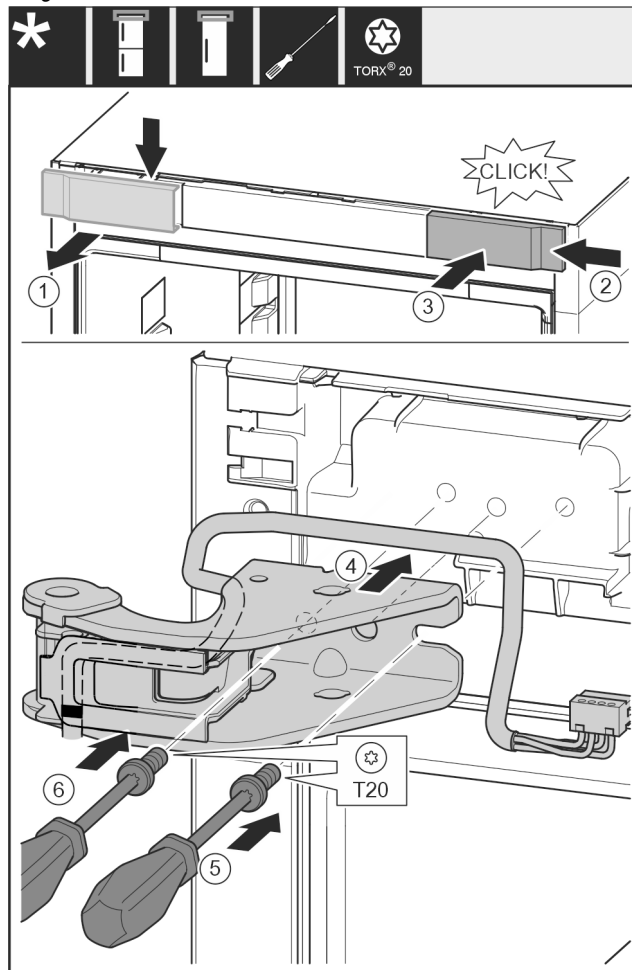

Fig. 30
- ▶ Take off the cover to the front from above. Fig. 30 (1)
- ▶ Rotate the cover 180° and clip onto the other side from the right. Fig. 30 (2)
- ▶ Latch the cover into place. Fig. 30 (3)
- ▶ Position the upper bearing bracket. Fig. 30 (4)
- ▶ Insert the screw with a T20 screwdriver and tighten it. Fig. 30 (5)
- ▶ Insert the screw with a T20 screwdriver and tighten it. Fig. 30 (6)